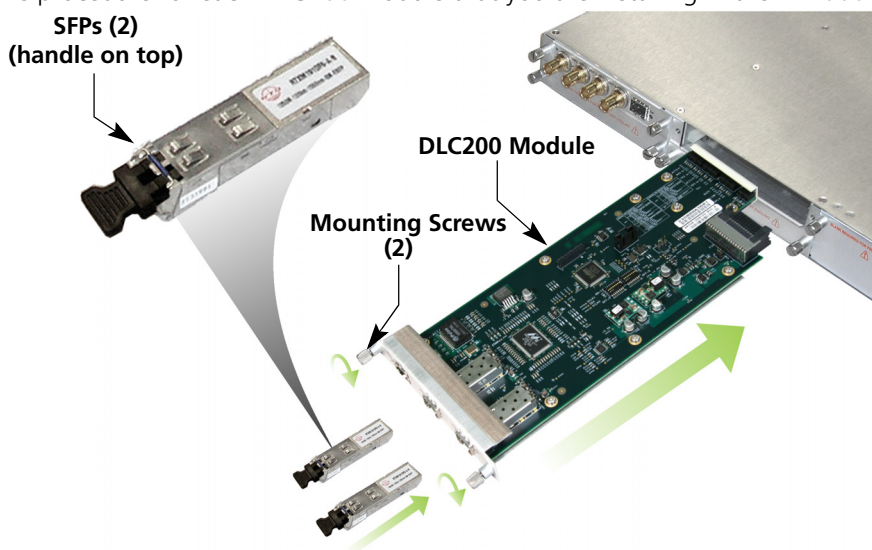

Figure 4. DLC200 Module and SFP Installation
To install a DLC200 in the chassis (see Figure 4), perform the following steps:
5. Depending on your application, install the SFP in the DLC200 (handle on top as shown in Figure 4) as follows:
Insert the SFP into the port with the handle on top as shown in Figure 4. Push the SFP in until it is firmly seated into the port.